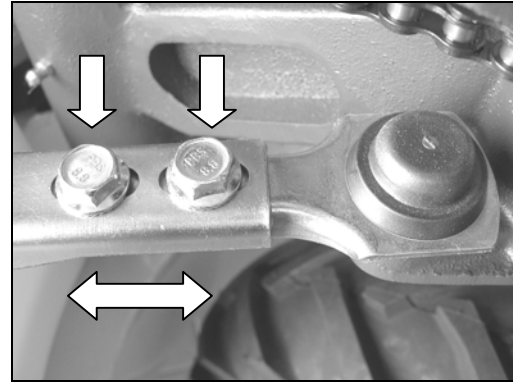

Fig. 86
- Slacken the right side so that the arm can be turned slightly (Fig. 86)